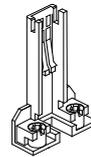

Figure 2-4
- Universal Retention Mechanism (URM) - Plastic Guide with captive nuts that hold the S.E.C. Cartridge in the Slot1 connector. (Refer to Figure 2-4)